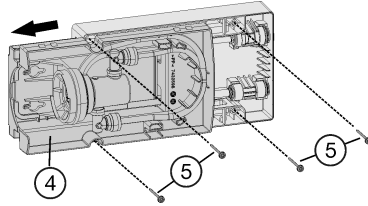

Fig. 57
- ▶ Pull the tray *Fig. 57 (4)* out until it catches.
- ▶ Secure the module with 4 screws *Fig. 57 (5)* through the recesses in the front and directly through the module in the back.